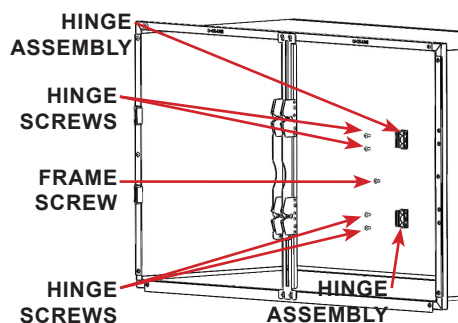

FIGURE 2.22 - Double Door Cage
**STEP 11:** DD Cage - Remove the screws (4 ea) holding the hinges, and the center frame screw between the hinges from the previous set cage. See FIGURE 2.22
*DD Cage latches (FIGURE 2.22) share a center latch plate, it is NOT necessary to remove the latch assembly on a double door cage.*